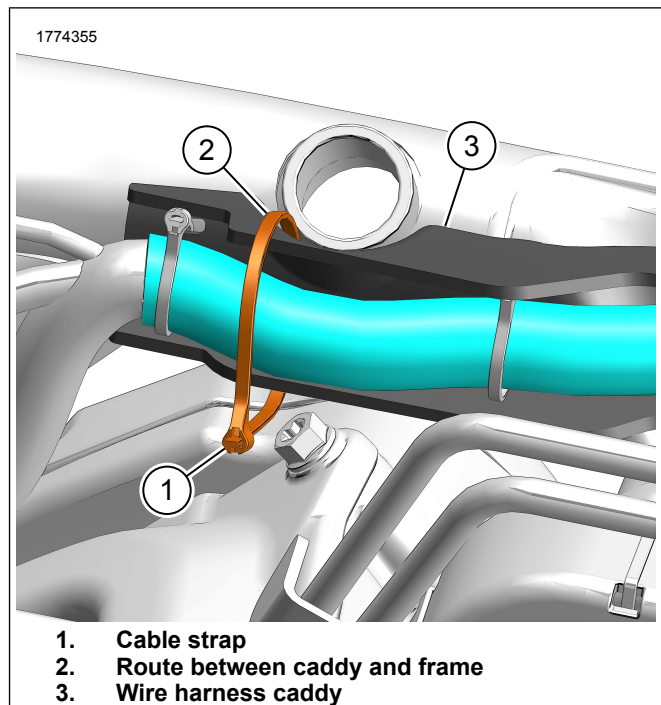

Figure 3. Wire Harness Caddy
- See Figure 3. Inspect engine harness at caddy as it routes between the right upper frame rail and front cylinder head. If wire bundle is making contact with the cylinder head or cover screws, use cable straps to secure wires in caddy. Make sure to orientate cable strap(s) as shown in graphic. Make sure there is adequate clearance to the cylinder head.